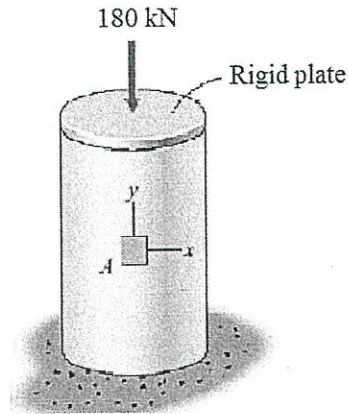
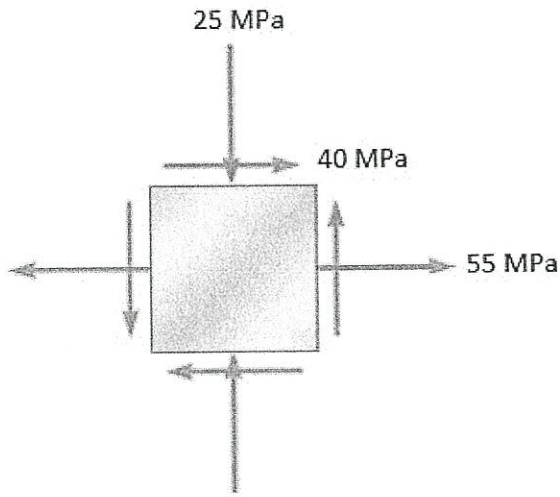

Figure Q5(c)
Figure Q6(c)
- (b) State **FOUR (4)** example of thin wall cylinder. (4 marks)
- (c) The cylindrical pressure tank shown in **Figure Q5(c)** has an inside diameter of 1.6 m and a wall thickness of 35 mm. The pressure in the tank is 1700 kPa. An additional axial load of 180 kN is applied to the top end of the tank through a rigid bearing plate. Determine ;
- (a) Give **TWO (2)** methods to compute principal stresses. (2 marks)
- (c) For the state of plane stress shown in **Figure Q6(c)**, determine: